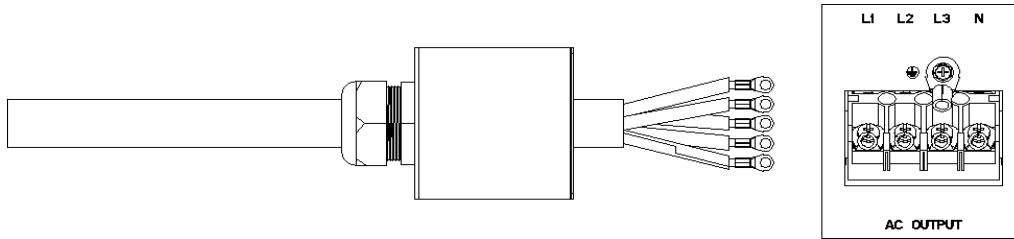

Fig. 19
2. The inverter has phase sequence self-adaption function, the sequence of three phase lines L1, L2 and L3 can not differentiated. Use a screwdriver to fix L1, L2, L3, N and PE wires to the corresponding AC terminals, and ensure that PE wires are grounded reliably (Fig. 19).